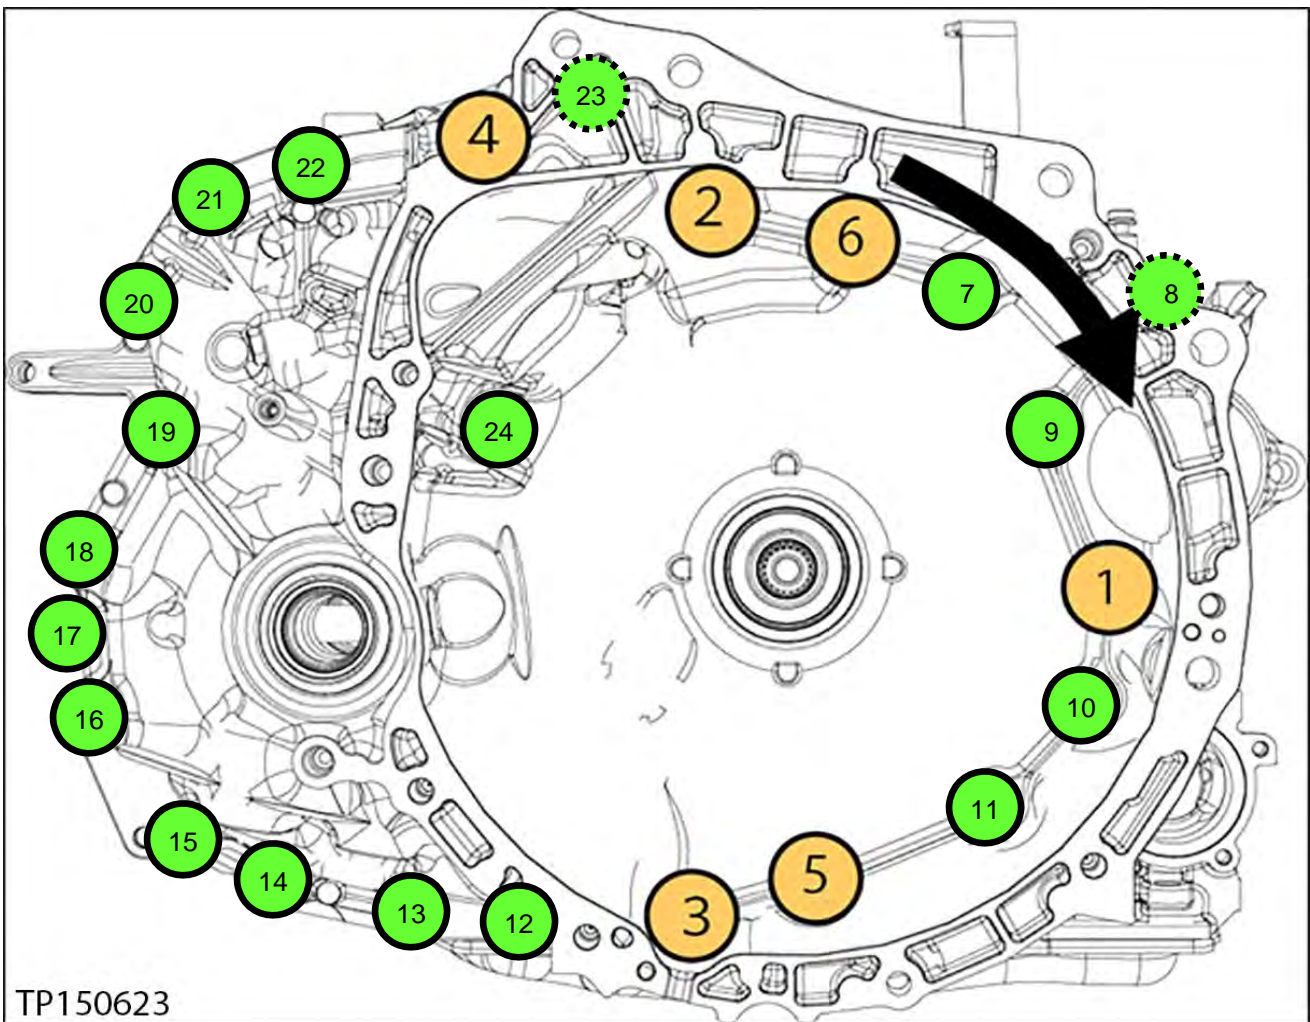

Figure 172
141. Install the torque converter housing onto the CVT case (see Figure 172 for torque sequence):
- Install new bolts (24).
- a. Torque the first six (6) bolts with symbol  in numbered sequence (see below).
**IMPORTANT:** Make sure to torque the bolts in the sequence shown (Figure 172).